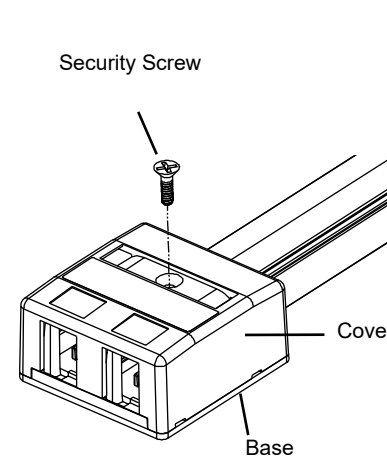

Figure 6
6. Snap cover onto base unit. Secure cover with supplied security screw. See Figure 6.